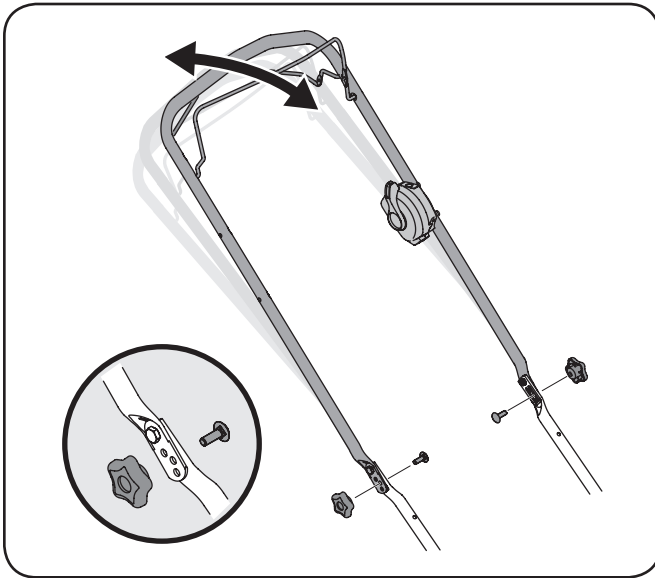

Figure 3-11
1. Remove star knobs and carriage bolts from handle. See Figure 3-11.
2. Position the handle in one of the three positions that is most comfortable. See Figure 3-11 inset.